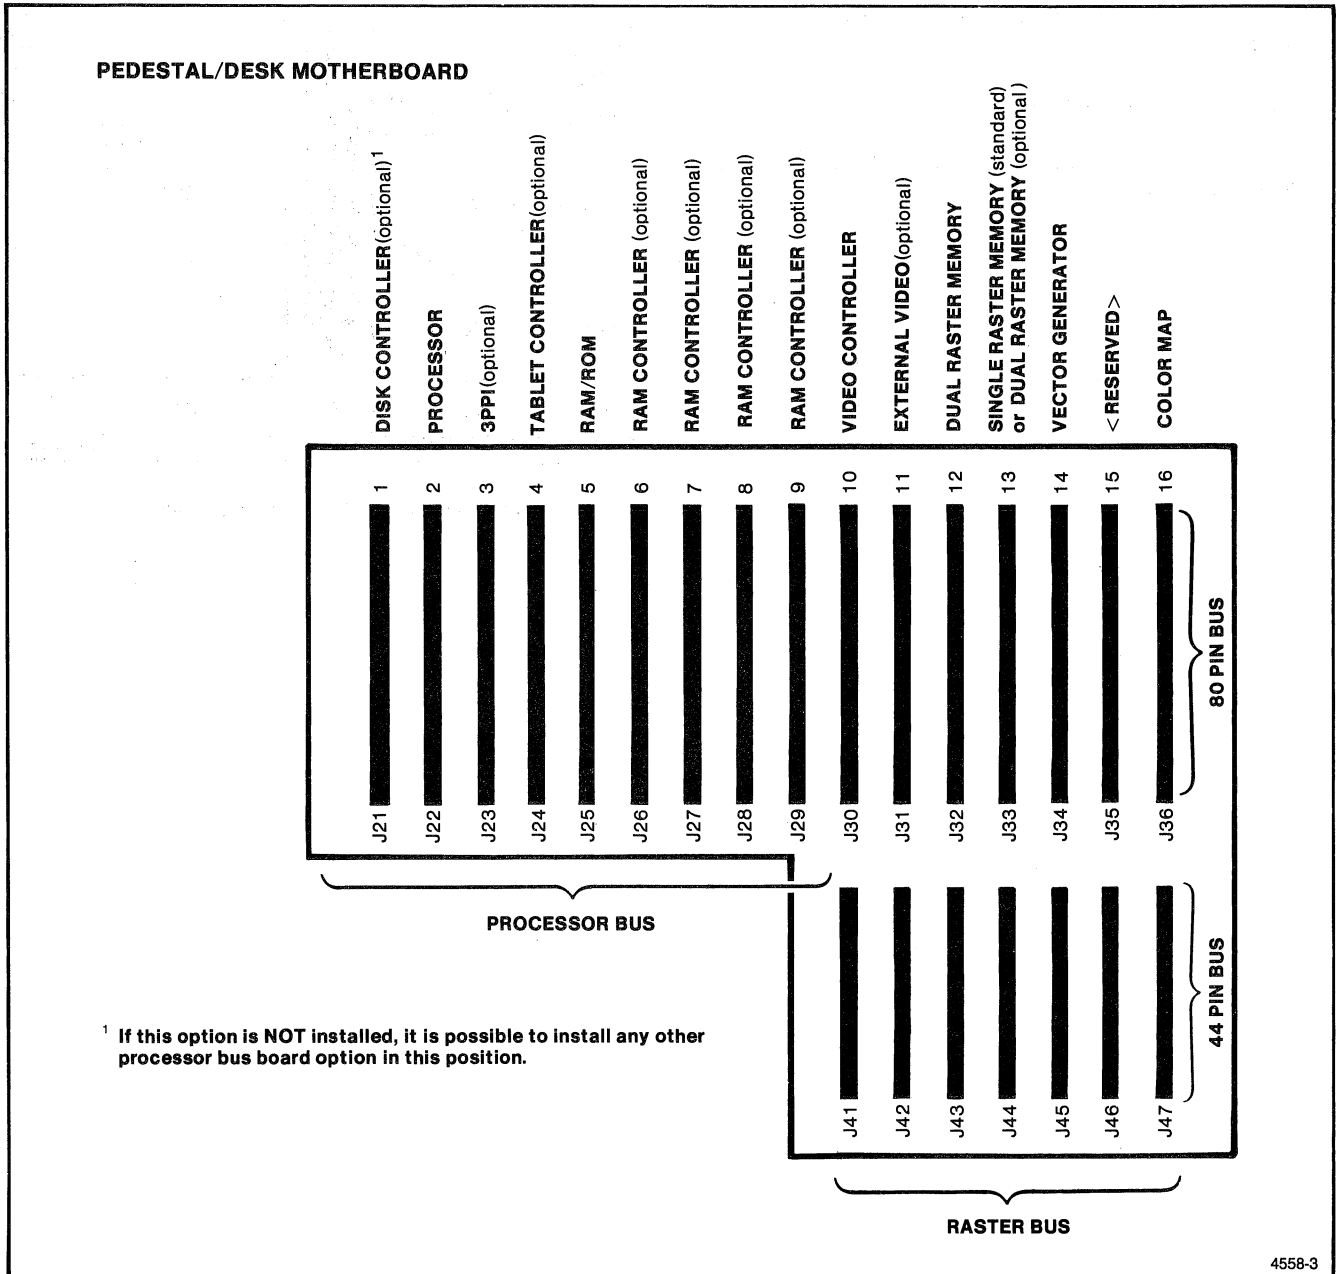

Figure 5. Circuit Board Locations.
7. Select an unused slot on the Processor bus section (J21 – J29) of the Motherboard (Figure 5) and insert the Color Copier Interface board. Secure the circuit board locks.